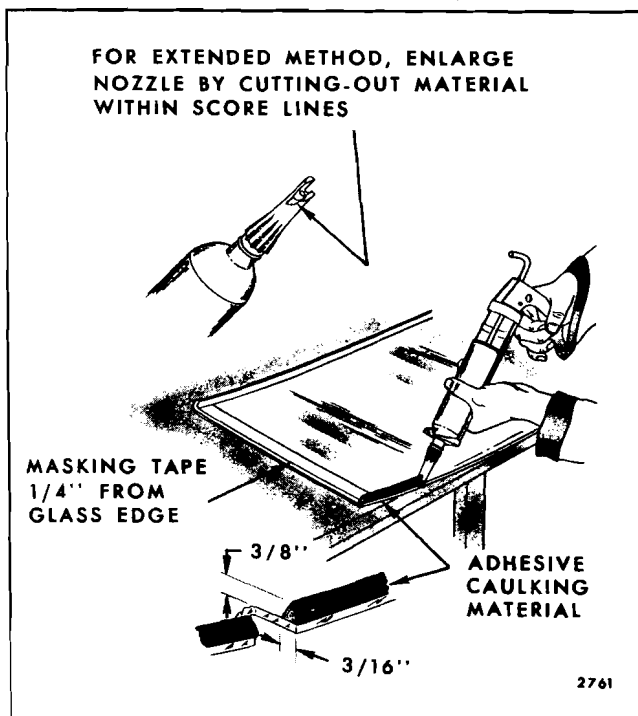

Fig. 4-10—Adhesive Material Application - Extended Method
11. Remove glass from opening and apply one-inch masking tape around inner surface of glass $1/4$ " inboard from outer edge (Fig. 4-10). On windshield installations, apply tape to top and sides only. Do not use tape across bottom. Removal of tape after glass installation will aid in clean-up and give a smooth, even edge to adhesive material.
13. Nozzle furnished in kit is designed for "short" method. For the "extended" method, enlarge nozzle opening by removing material within score lines as indicated in Figure 4-10. Do not notch nozzle beyond score lines.
15. With caulking gun and nozzle positioned as illustrated in Figure 4-10, carefully apply a smooth continuous bead of caulking material $3/8$ " high by $3/16$ " wide at base completely around inside edge of glass.